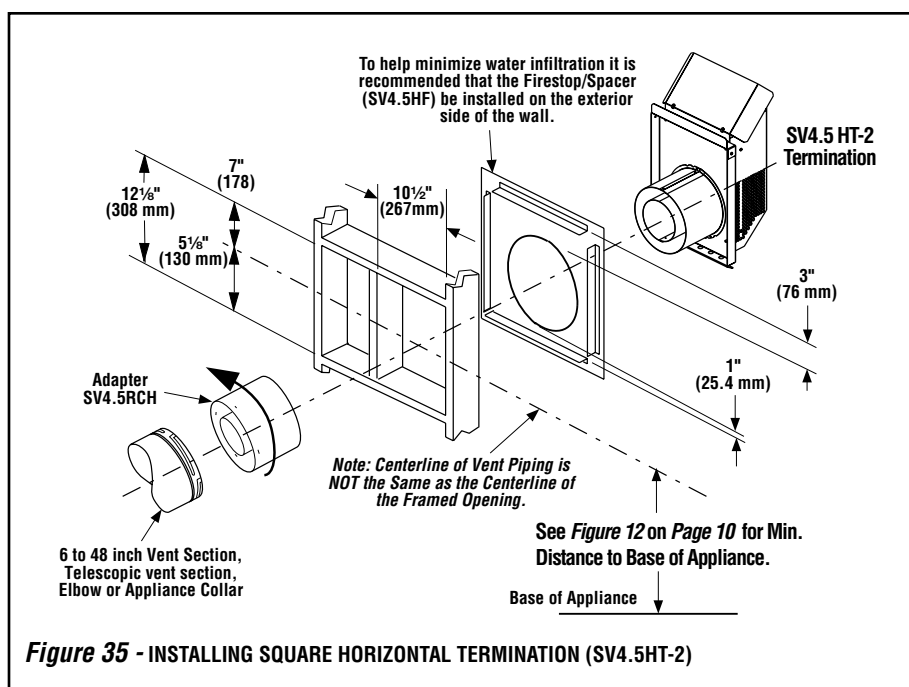

Figure 35 - INSTALLING SQUARE HORIZONTAL TERMINATION (SV4.5HT-2)
Figure 32 (Page 19), and Figures 35 to 40 on Pages 21 to 23 and their associated Horizontal Vent Table which illustrate the various horizontal venting configurations that are possible for use with these appliances. **Secure Vent** pipe applications are shown in these figures;
K. Attach termination adapter - Attach the adapter (adapter-SV4.5RCH - provided with the termination) to the vent section or telescoping vent section), elbow or appliance collar as shown in **Figures 35 and 36** in the same manner as any SV4.5 vent component (refer to **Step E**).
L. Install Firestop/Spacer at exterior wall - When using the **square** termination, install a Firestop/Spacer (SV4.5HF) over the opening at the exterior side of the framing, long side up, with the 3 inch spacer clearance at the top as shown in **Figure 35**, and nail into place. The Firestop/Spacer may also be installed over the opening at the interior side of framing.